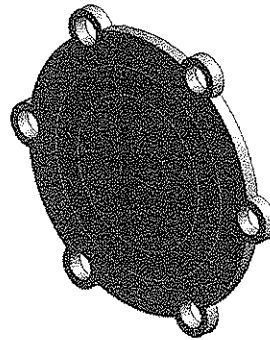

Figure 4-64 Model with the newly created sketch
17. Choose the **Generate** tool from the **Features** toolbar; the surface is created on the model, as shown in Figure 4-64.